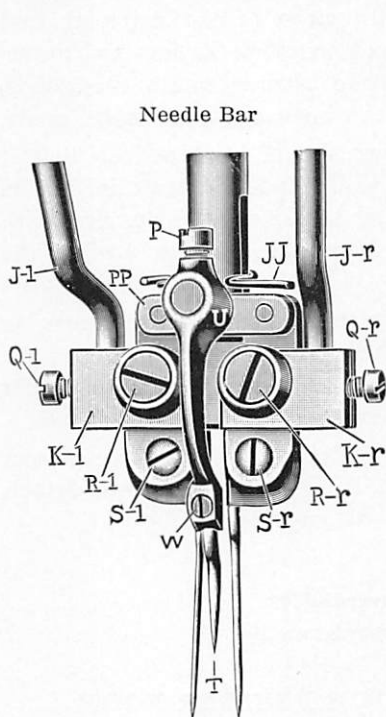

Fig. 16
Either needle can be set closer to or farther from the other (see Figs. 16 and 17) by loosening nuts (OO) and adjusting hinge screws (R).
To Set the Auxiliary Piercer. Loosen screw (P, see Fig. 16) and set bracket (U) forward or backward as required. As the